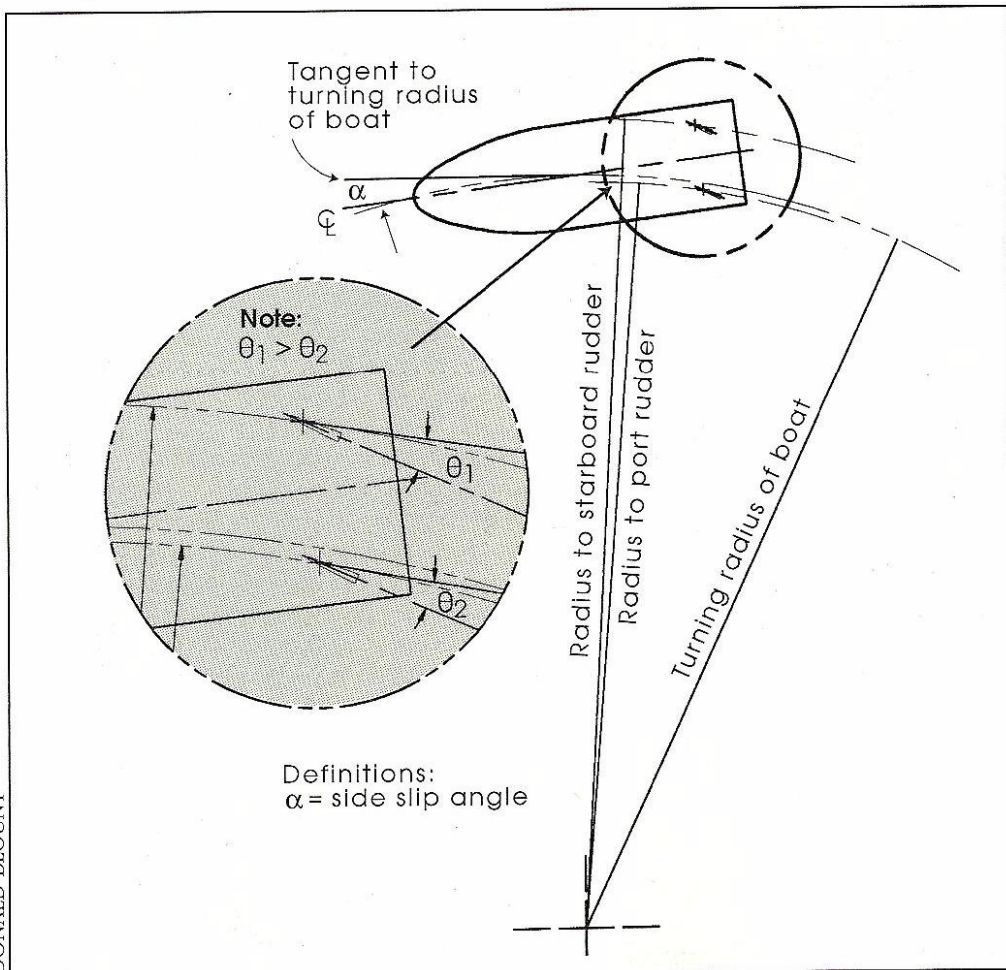

**Figure 2**—Rudder Geometry. The projected area, says the author, is the single most important feature to consider.
**Figure 2** provides some basic definitions and a profile view of a typical rudder. The *projected area* is the single most important feature. The lever arm of the rudder—the distance between the rudder-stock axis and the center of pressure—controls the steering torque. Having the center of pressure aft of the rudder stock is a critical safety factor: Unless the center of pressure remains aft of the stock axis, steering-gear failure during high-speed operation could cause a snap turn.